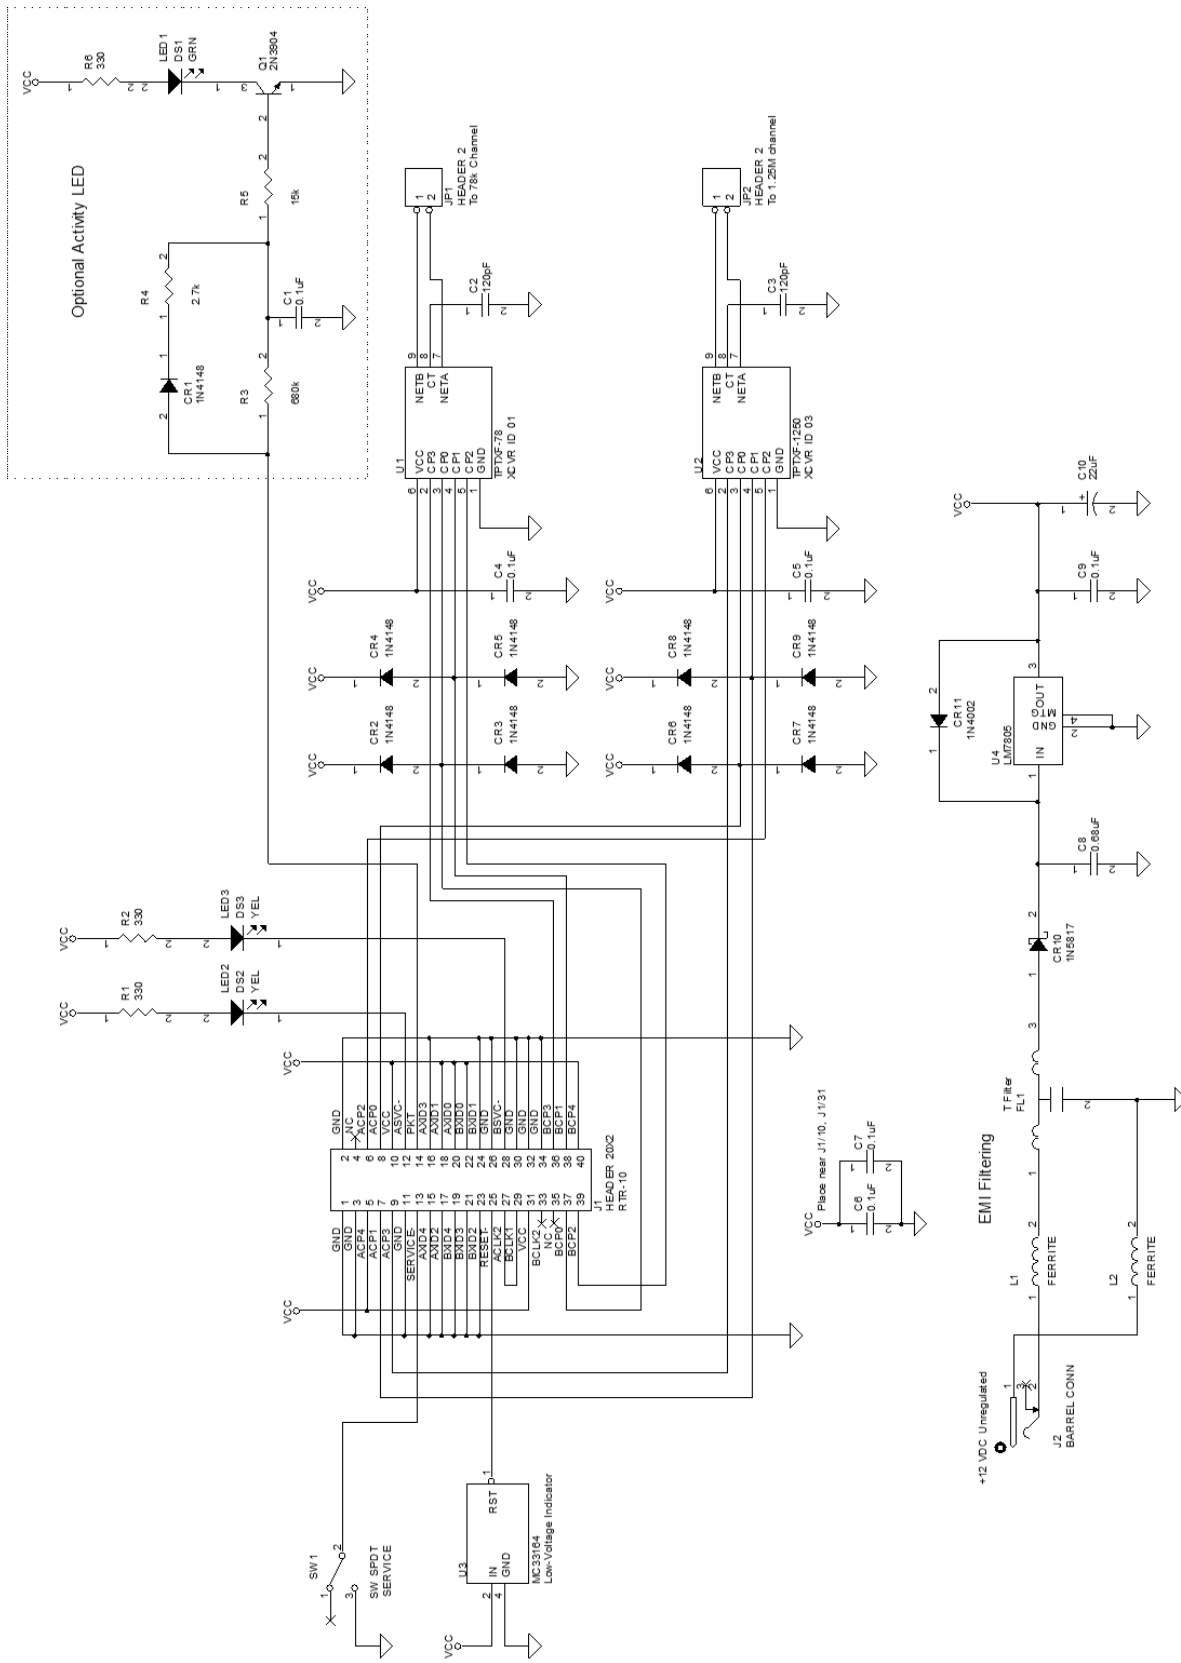

Figure 27. RTR-10 Motherboard Example Schematic
RTR-10 Neuron Chips. In the sample circuit of **Figure 27**, protection is provided by a Motorola MC33164.
1. Build a router motherboard according to the specifications described in Chapter 2, *LONWORKS Router Electrical Interfaces*, and the guidelines described in Chapter 5, *LONWORKS Router Design Issues*. The motherboard can be part of custom application hardware, or can be a standalone board. **Figure 27** shows a sample motherboard schematic for a TP/XF-78 to TP/XF-1250 twisted pair router. Additional transceiver interfaces are described in the next section.